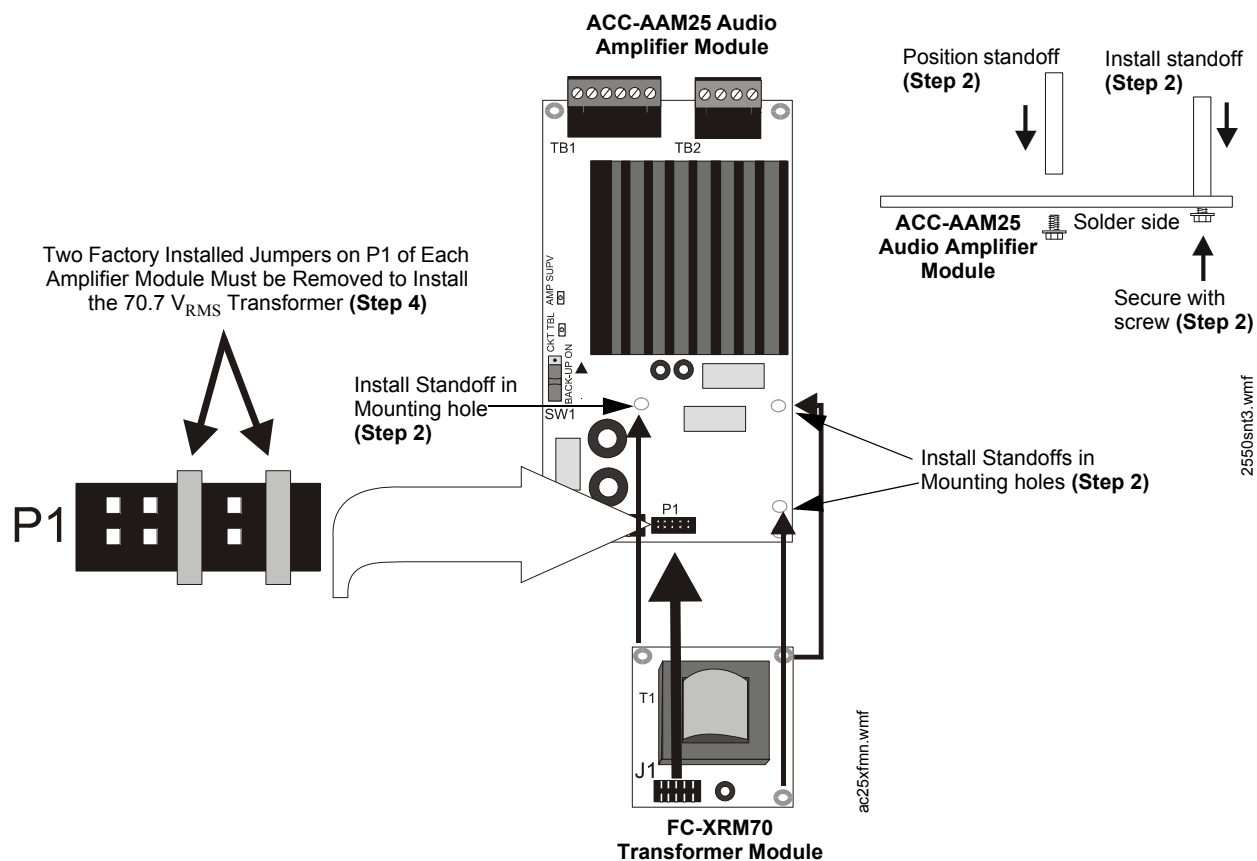

Figure 3.18 70.7 V_{RMS} Transformer Module Installation
- (1) Position switch S1 in the DOWN position for primary operation which adds the new amplifier's 25 watts to total system power (50 watts total).
- (2) Position switch S1 in the UP 'Backup On' position to configure the amplifier as a backup in the event the primary amplifier fails. Also for ACC-25/50ZS & ACC-25/50ZST: position switch SW1 on the ACC-ZSM board to the AAM1 position for single amplifier circuit operation.
7. Check to make certain the factory installed jumpers are in place on P1 of the Audio Amplifier Module(s). *Do not remove unless installing the FC-XRM70 Transformer Module. See Figure 3.18 on page 59 for more information.*
- Install the three standoffs supplied with the FC-XRM70 Module by inserting each supplied screw into the three holes on the solder side of the ACC-AAM25 Audio Amplifier Module(s). Secure each standoff in place with the screws. Refer to Figure 3.18 for the location of the mounting holes.
- Remove the two factory installed jumpers from connector P1 of the Audio Amplifier Module(s). Refer to the illustration in Figure 3.18.